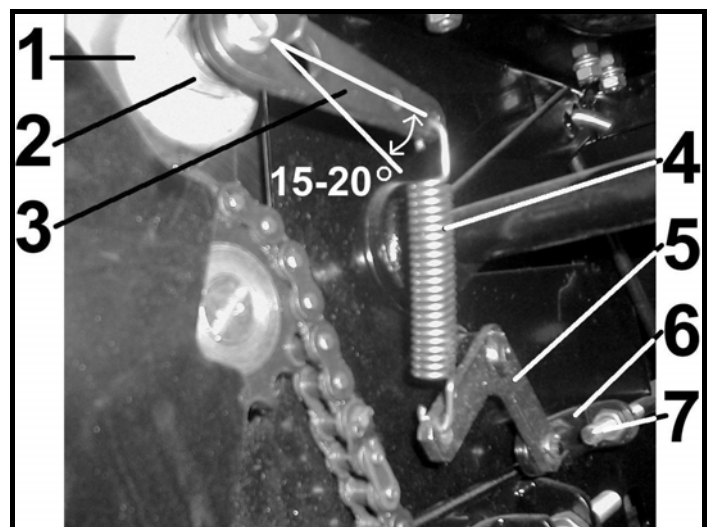

Fig.15c
**Adjustment of brakes– Fig.15c**
**Description of Fig. 15c**